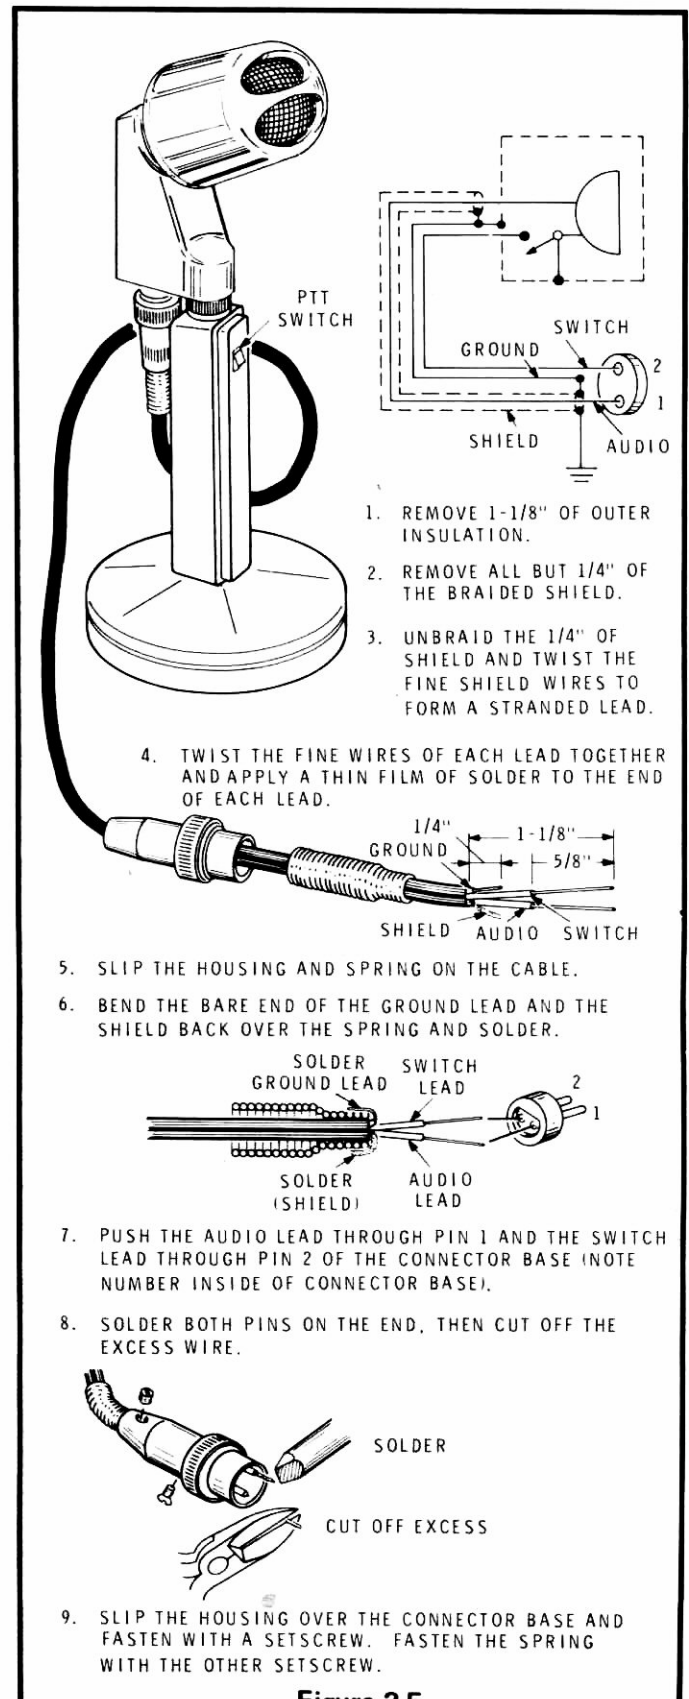

Figure 2-5
- () Perform the numbered steps in Figure 2-5.
If you use a microphone different than the one shown, connect the lead from the microphone element to pin 1 of the panel connector. If the microphone has a PTT switch, connect this lead to pin 2. Shield wires, to complete the ground side of the circuit, should be soldered to the spring as shown in Figure 2-5.